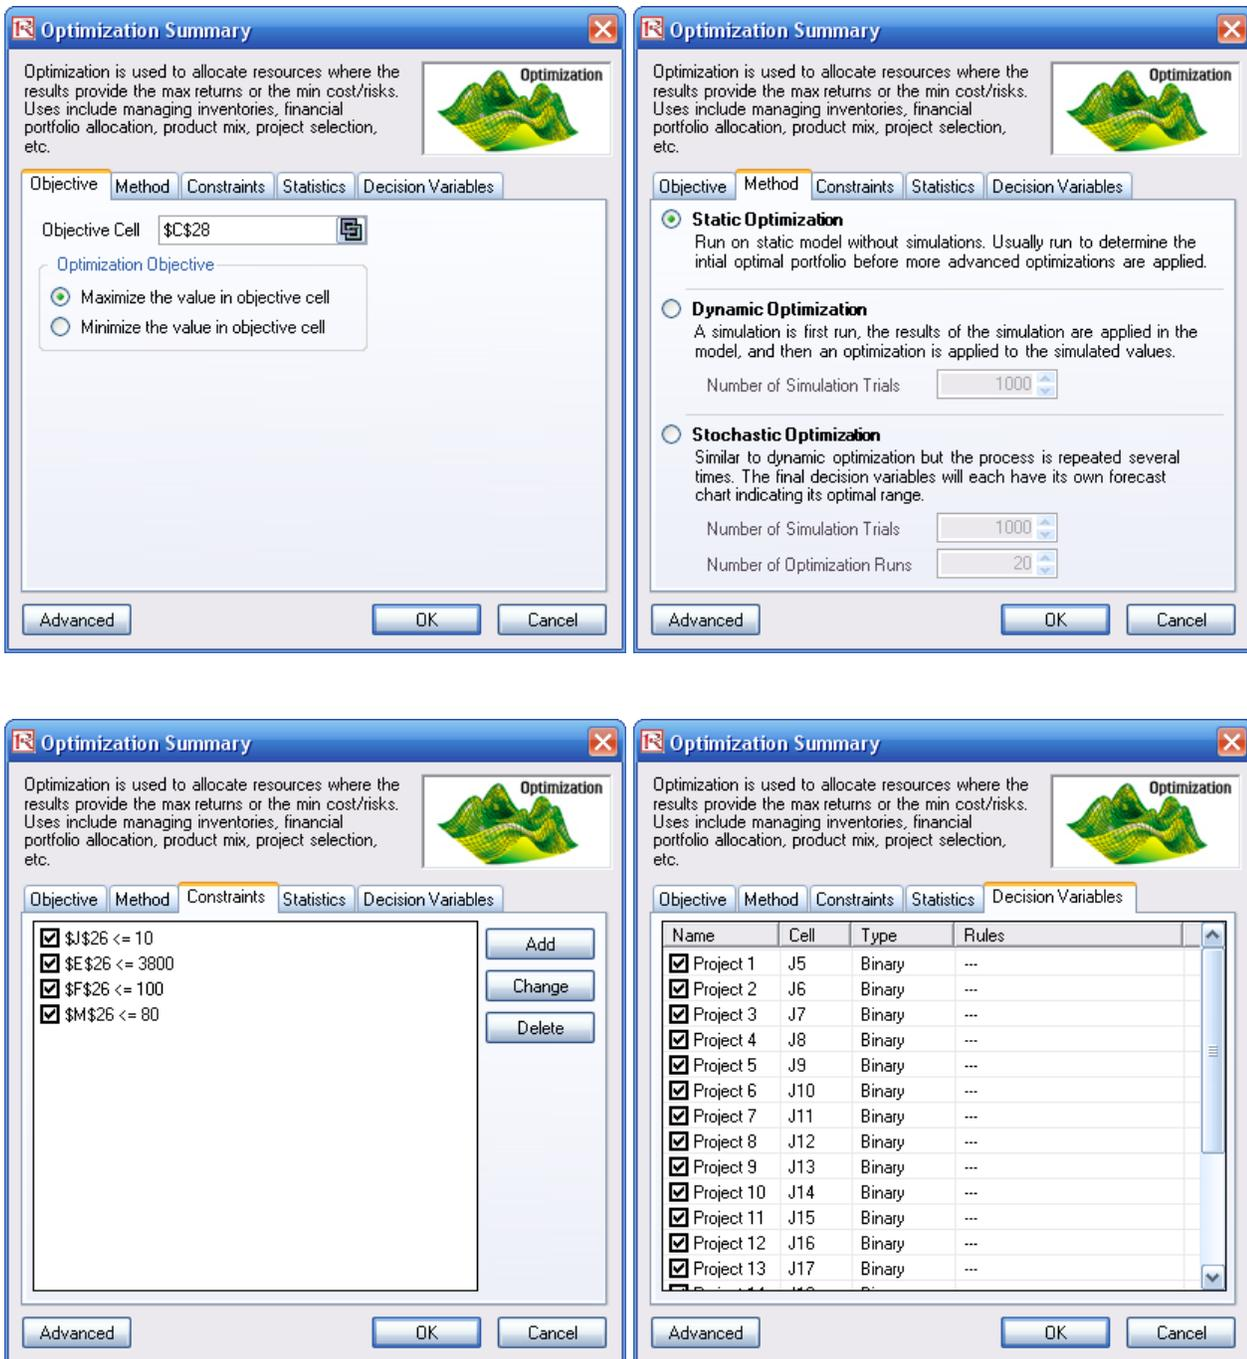

Figure 2: Setting up an optimization model
5. You may now select the optimization method of choice and click OK to run the optimization. The model setup is illustrated in Figure 2 and the various optimization procedures are listed next.